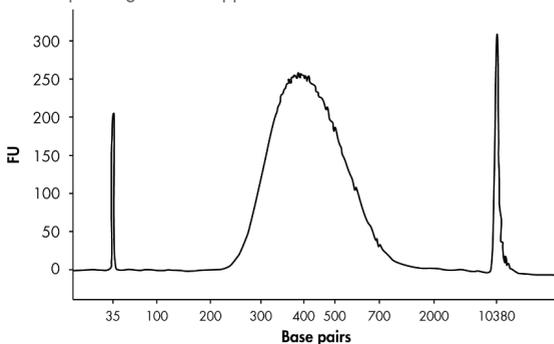

Figure 1. Capillary electrophoresis device trace data.
9. Assess the quality of the library using a capillary electrophoresis device such as QIAGEN QIAxcel or Agilent BioAnalyzer. Check for the expected size distribution (see Figure 1) of library fragments and for the absence of an adapters or adapter-dimers peak around 120 bp.
Note: The library should show a distribution centered around the size of the fragmented DNA plus 120 bp (see Figure 1). The increase in library length reflects the addition of sequencing adapters to the DNA fragments.